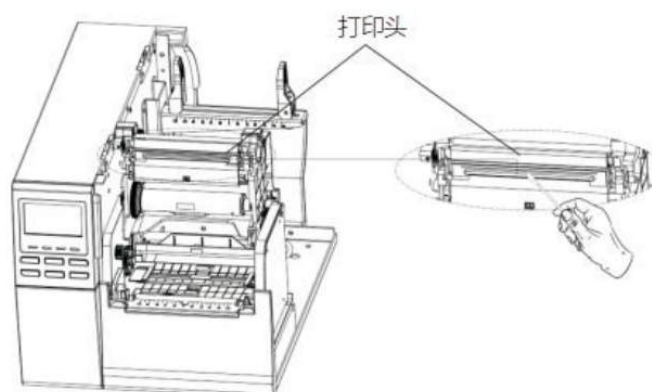

图 20
- As shown in Fig. 20, clean the printhead with a cotton swab or soft cloth moistened with anhydrous alcohol.